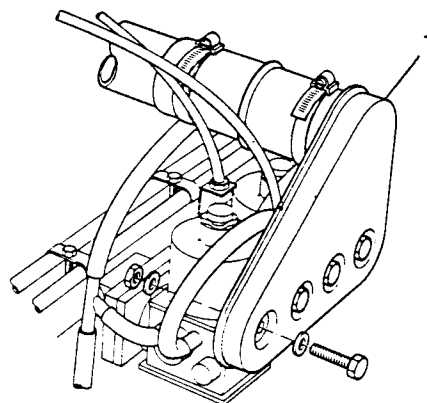

Fig B4.29
(21) Refer to Fig B4.29. Fit the air intake box (1) over the carburetors.